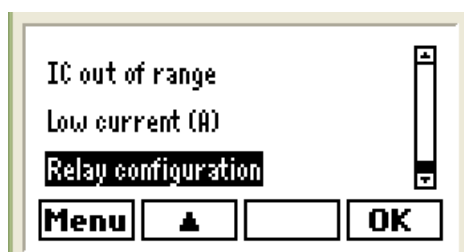

Fig.96.- Configuring standard alarm screens
- The list of alarms will be displayed (Fig.96) and you can assign the alarms that will make the relay switch (ON) and which will not make it perform the switching action (OFF). The relay is switched when any of the alarms assigned trips, provided that these are enabled and that the global enabling option is also activated.